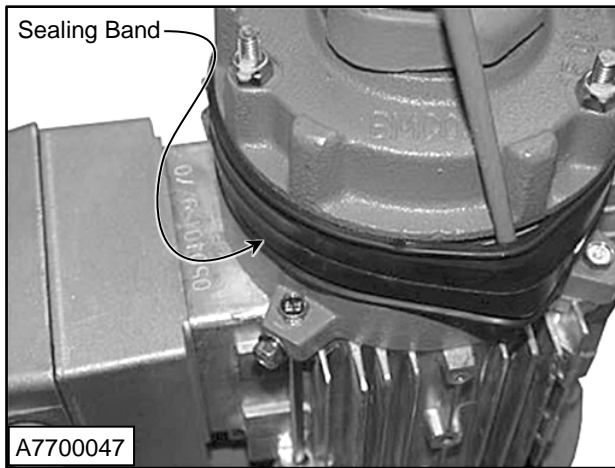

Figure 52
- Remove sealing band. (See Figure 52)